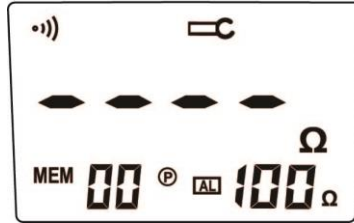
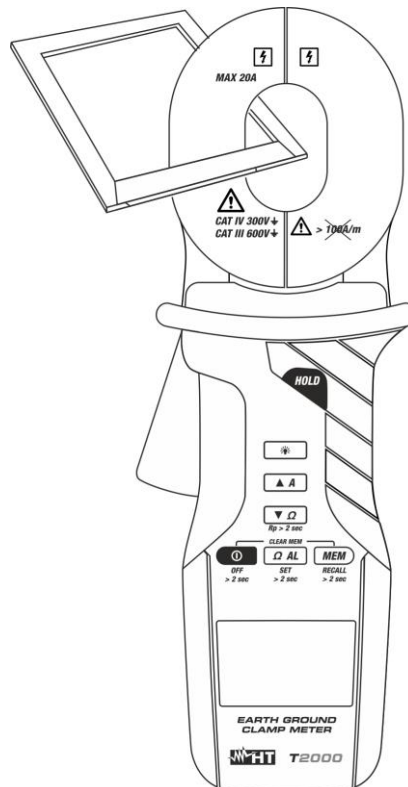

Fig. 7
Fig. 8: Resistance measurement of test loop
3. Open the jaws gently (the display will show the screen in Fig. 7) and clamp one test loop provided as accessory (see Fig. 8).
3. Open the jaws gently (the display will show the screen in Fig. 7) and clamp the rod to be measured, then read the result on the display.